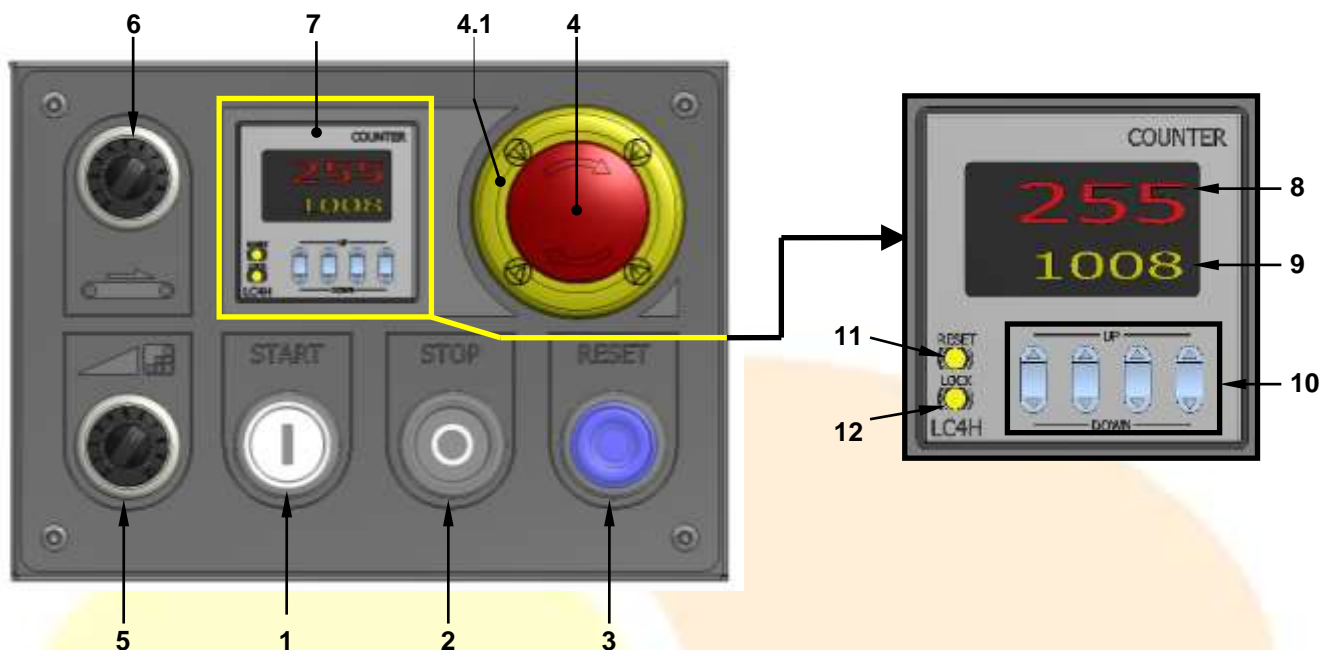
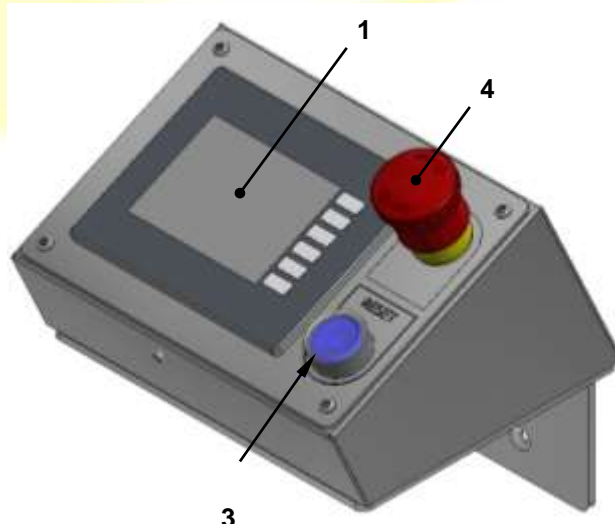
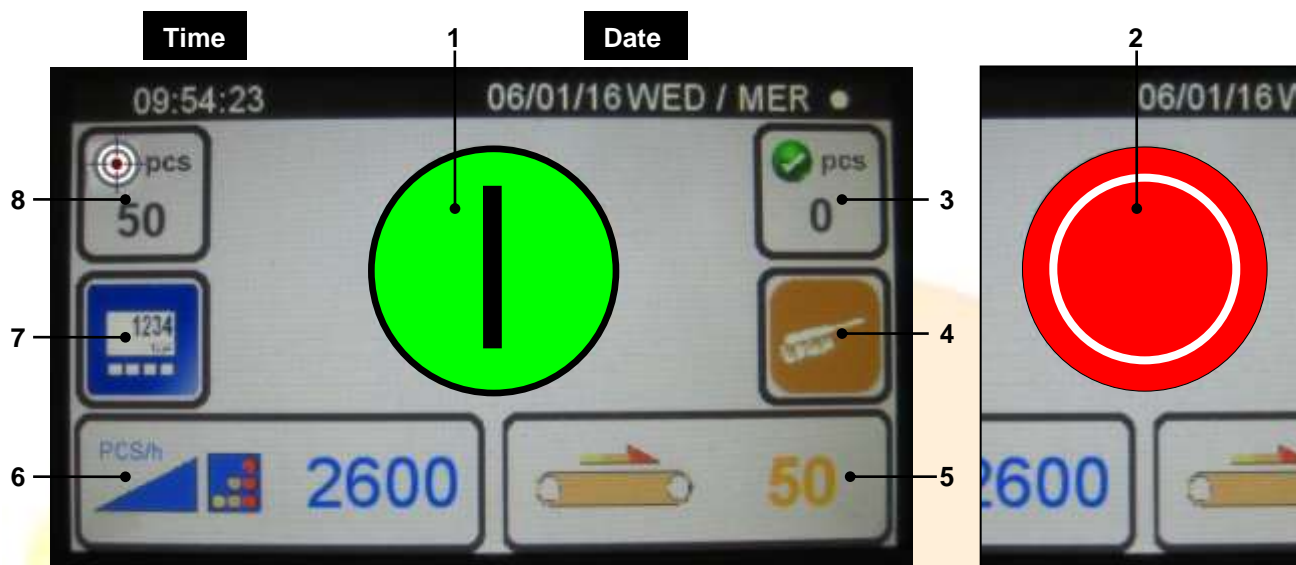

Figure 5 - Electro-mechanical control panel
Figure 6 - “Touch Screen” Control Panel
Figure 7 - “Touch Screen” Control Panel
The electro-mechanical control panel comprises the following devices (see Figure 5)
The “Touch Screen” control panel comprises the following devices (See Figure 6):
The Touch Screen (ref. 1 Figure 6) displays the following fields (see Figure 7)
- ref. **1** START field; by touching it, the machine is started and the icon transforms into STOP ref. 2
- ref. **2** field STOP; by touching it, the machine stops operating and the icon transforms into START ref. 1
- ref. **3** field that displays the counting of the pieces: the output belt is equipped with a sensor to detect the pieces exiting the machine (the icon appears only if the “piece counter” function is activated through the field ref. 7)
- ref. 4 “cleaning” field: stops the weight chamber pistons in the upper position so as to facilitate the removal of residues
The functions of ref. 3 and ref. 4 devices are the same as the devices shown Figure 5 and Figure 6